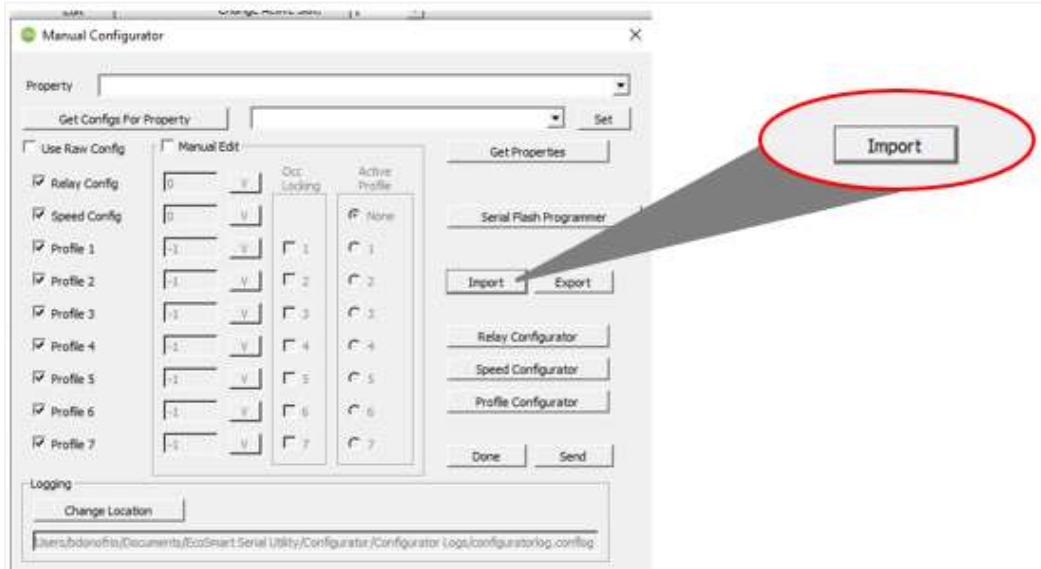

Figure 2
7. Select **Import** (Figure 2).